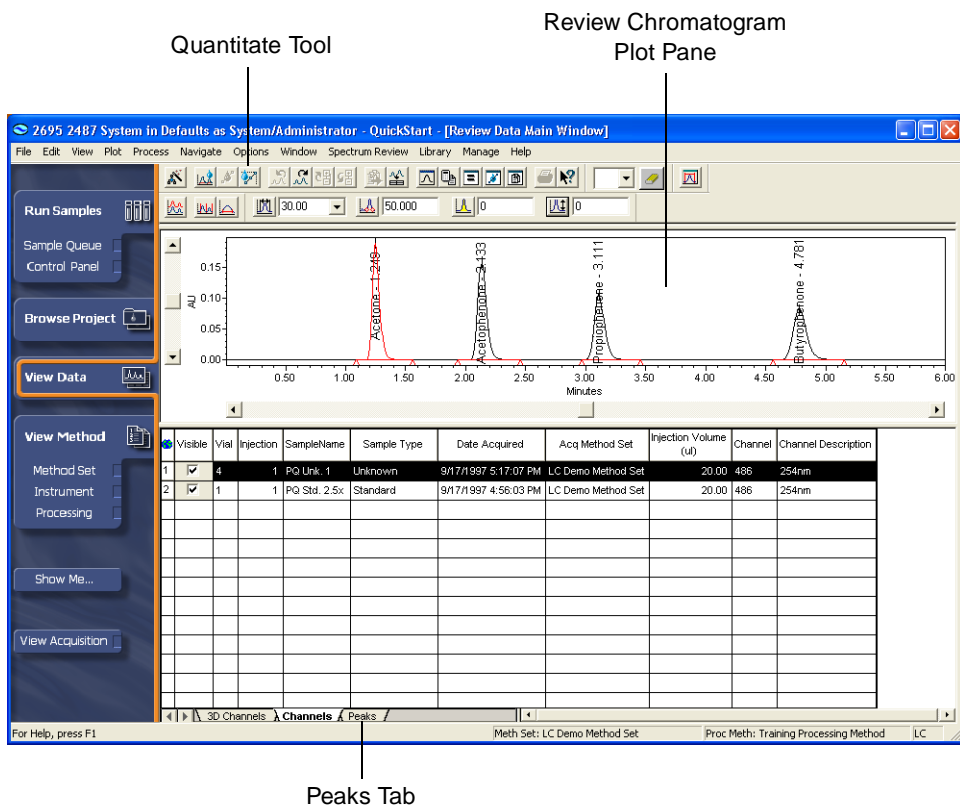

Figure 6-12 View Data with Chromatogram of Unknown
1. Select the unknown in the Channels table by clicking the appropriate row in the table. This chromatogram appears in the Review chromatogram plot pane (Figure 6-12).